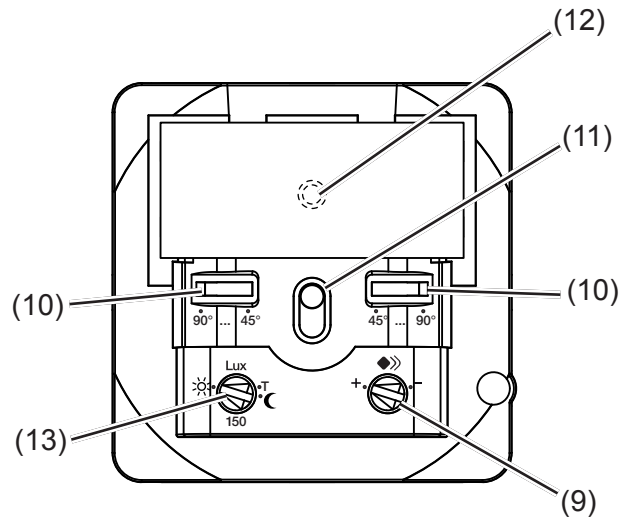
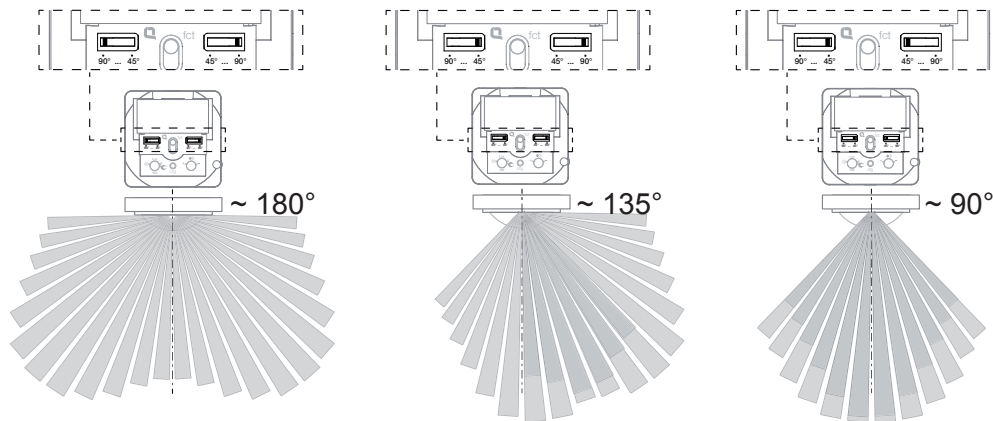

Fig. 5: Operating and adjustment elements of the bottom part of the application module
Fig. 8: Setting the detection angle
The detection angle can be restricted for the right side and for the left side via each adjuster (Fig. 5, 10) between $45^\circ \dots 90^\circ$. Thus, the detection angle can be between 90° and 180° (Fig. 8).
- Setting the test mode. To do so, set the response brightness potentiometer (Fig. 5, 13) to the T position.
- Turn the response brightness potentiometer (Fig. 5, 13) to the desired position.
- Turn the sensitivity potentiometer (Fig. 5, 9) to the desired position.